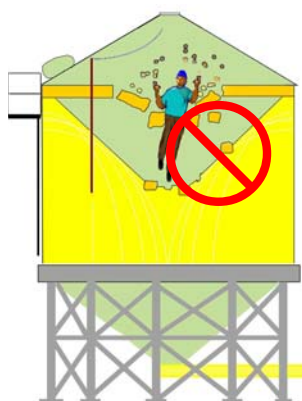

Figure 10a.
3. Never enter a bin that you do not know the nature of previous grain removal, especially if there is any vertical or horizontal **crusting** or **bridging** evident. See **Figure 10a**, left. There may be blocked flow, toxic molds, empty cavities, cave-offs, or any combination of the above—which can lead to entrapment/engulfment and suffocation.
10. Provide *per entrant* a minimum of two (2) **properly equipped attendants** stationed outside the bin, whose only task is to continuously track and communicate with the entrant in the bin, to provide assistance if necessary, and to be capable of lifting the entrant out without entering the bin themselves. **Never depend** on one (1) attendant only, either on the roof, ground, or any other remote point to whom you would shout instructions *to start or stop equipment*. (Equipment noise or other sounds can block out commands or cries for help.) A single attendant cannot go for help **and** maintain preliminary aid outside, and may fall or over-exert in the haste of running to the control point.